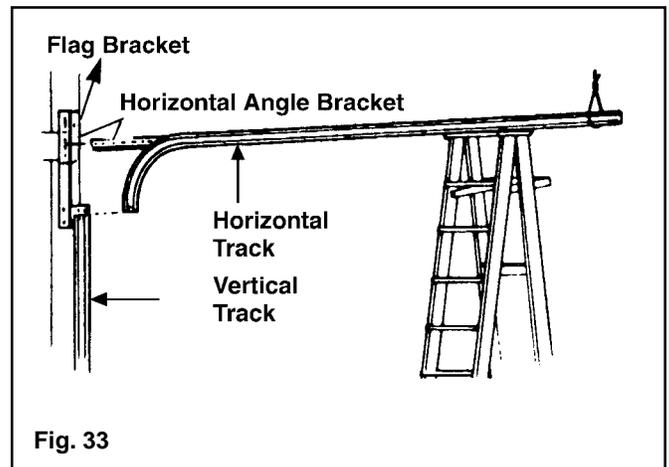

Fig. 33
**Step 5:** Temporarily support the rear end of the track with a rope from the trusses overhead in the garage or on a tall ladder. (FIG. 33)